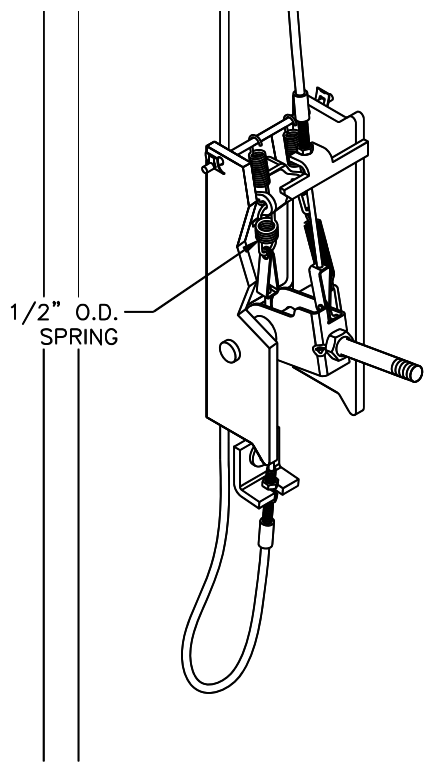

Fig. 18c-Lock Release – Idler Side
- 56) Repeat for second lock release cable so both sides look the same, **Fig 18c**.